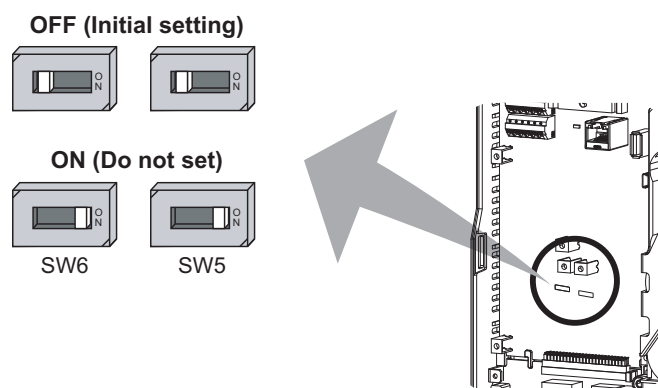

Figure 8 Manufacture setting switches
- 2) Check the manufacturer setting switches (SW5 and SW6 in Figure 8), if provided, to ensure they are in their initial positions. Depending on the inverter model and manufactured date, there is no switch.
- 5) If the inverter operates as described in Table 7, check the system performance. Press the emergency switch, press the start/restart button while a failure is detected (So (SO) -SOC opened), and so on.